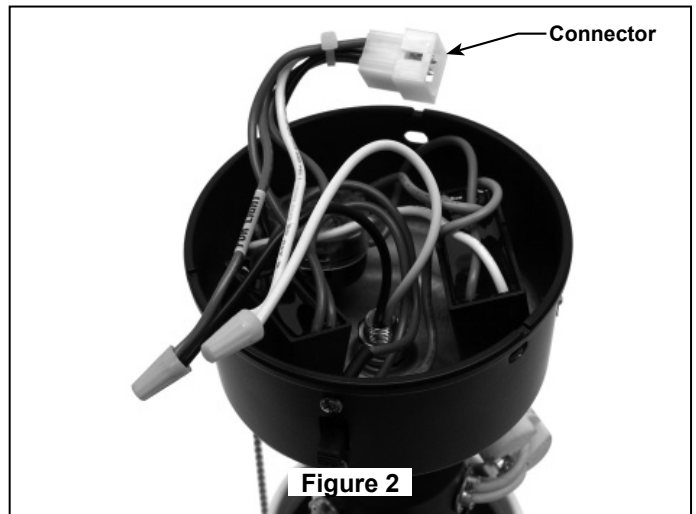

Figure 2
4. Attach the assembled blades to the bottom of the rubber flywheel using the flywheel screws provided. (Figure 2)
5. Make sure the screws securing the blade holders to the flywheel are tight and that the blade holders are properly seated on the flywheel. (Figure 2)
3. Attach the switch housing to the fitter/light kit by feeding the wires (black & white) through the hole of the switch housing, place lockwasher over the fitter/light kit leads & nipple and fasten the fitter/light kit with the nut provided onto the nipple. Be sure it is tight enough to prevent fitter/light kit from vibrating loose (Figure 2).
4. Locate two single wires in switch housing. White and blue wires labeled "FOR LIGHT" (Figure 2).
5. Connect them to the fitter/light kit wires (Figure 2);
6. Carefully reconnect the connector and push all wires back into switch housing of fan. Then replace cover with original screws (Figures 2 & 3).